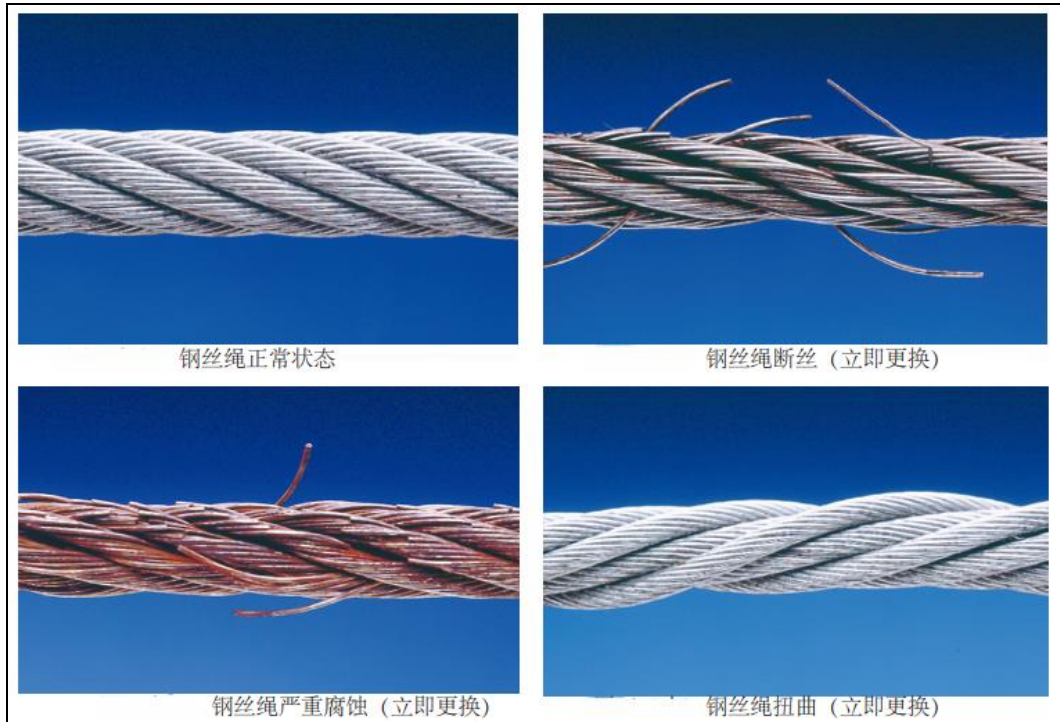

Figure 13
9.6 The operator should often check the visible parts and fixed parts of the wire rope. If any of the following conditions occurs, the wire rope should be scrapped and replaced with a new one in time (see Figure 13).